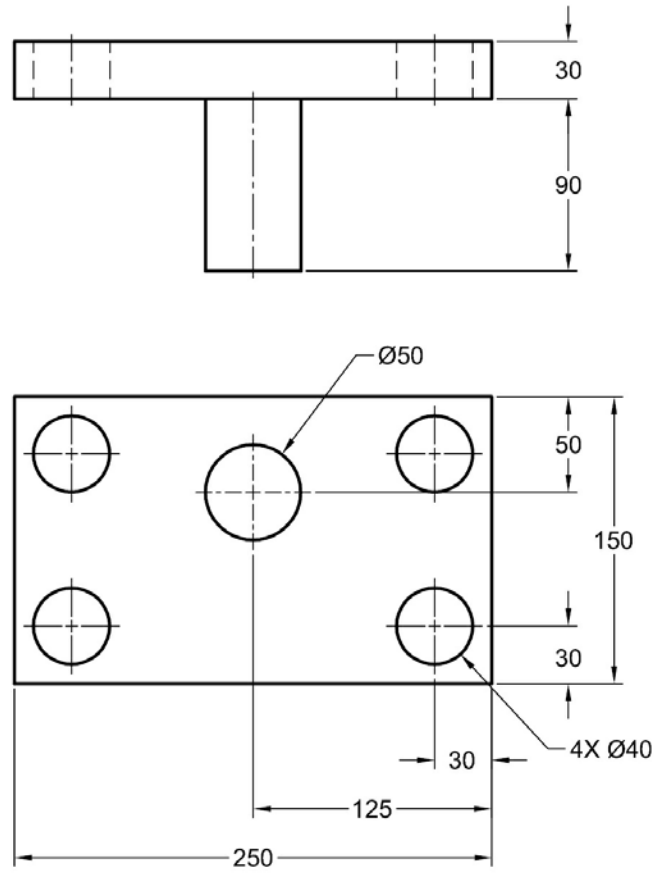
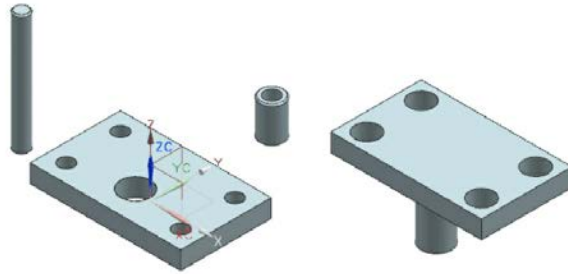

Figure 9-72 Dimensions and views of the Top Plate
Figure 9-78 Bottom Plate, Guide Pillar, Guide Bush, and Top Plate
- Create the Guide Bush and Top Plate, refer to Figure 9-78.
12. Create the Guide Bush and the Top Plate as you created the Guide Pillar, refer to Figure 9-78. For dimensions, refer to Figures 9-72 and 9-73.